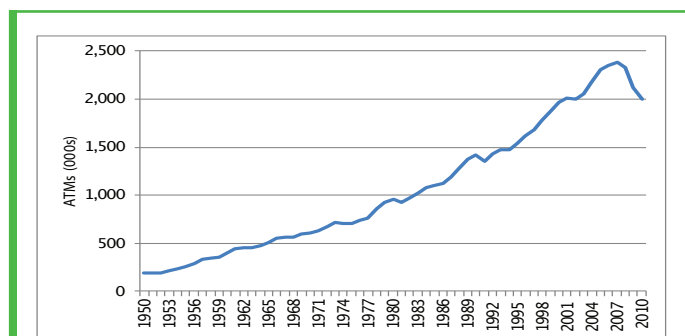

Figure 3 - Thousands of ATMs each year for all UK airports (DfT)
However, successive Directives and the ever quieter aircraft that came into service to comply with them operated in the context of increased air traffic (item 10) as is illustrated in Figure 3 which shows the change in Air Transport Movements (ATMs) over the study period. It was that combination of the reducing noise from individual aircraft and the increasing ATM that the Defra study sought to evaluate.